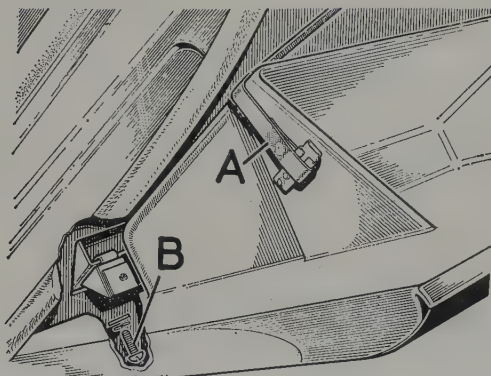

Fig. 12.53. Glove box check strap (A) and hinge screw (B)
- 1 Open the glove box lid and detach one strap end for the right-hand box and two strap ends for the left-hand box from the spring clips as shown in Fig.12.53.